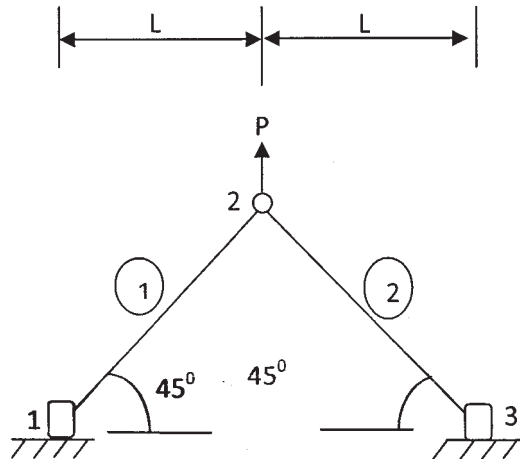

Fig.3
- b) For the truss element, write an equation for element stiffness matrix in global coordinate system and element stress equation. Find the element stiffness matrix for the two bar truss as shown in Fig. 3. Also find the stress in element 1.